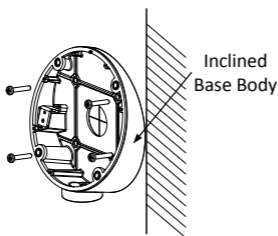

Figure 2-8 Fix the Inclined Base Body
5. Install the inclined base's body on the ceiling/wall with four PA4 x 25 screws, as shown in Figure 2-8.